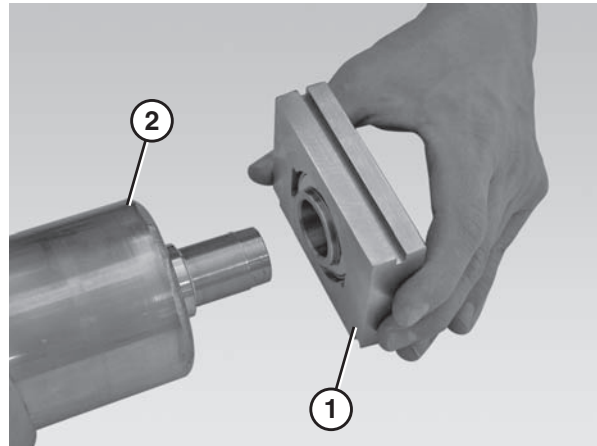

Figure 97
4. Slide the housing block (**Figure 97, item 1**) and bearing off of the tension spindle (**Figure 97, item 2**).